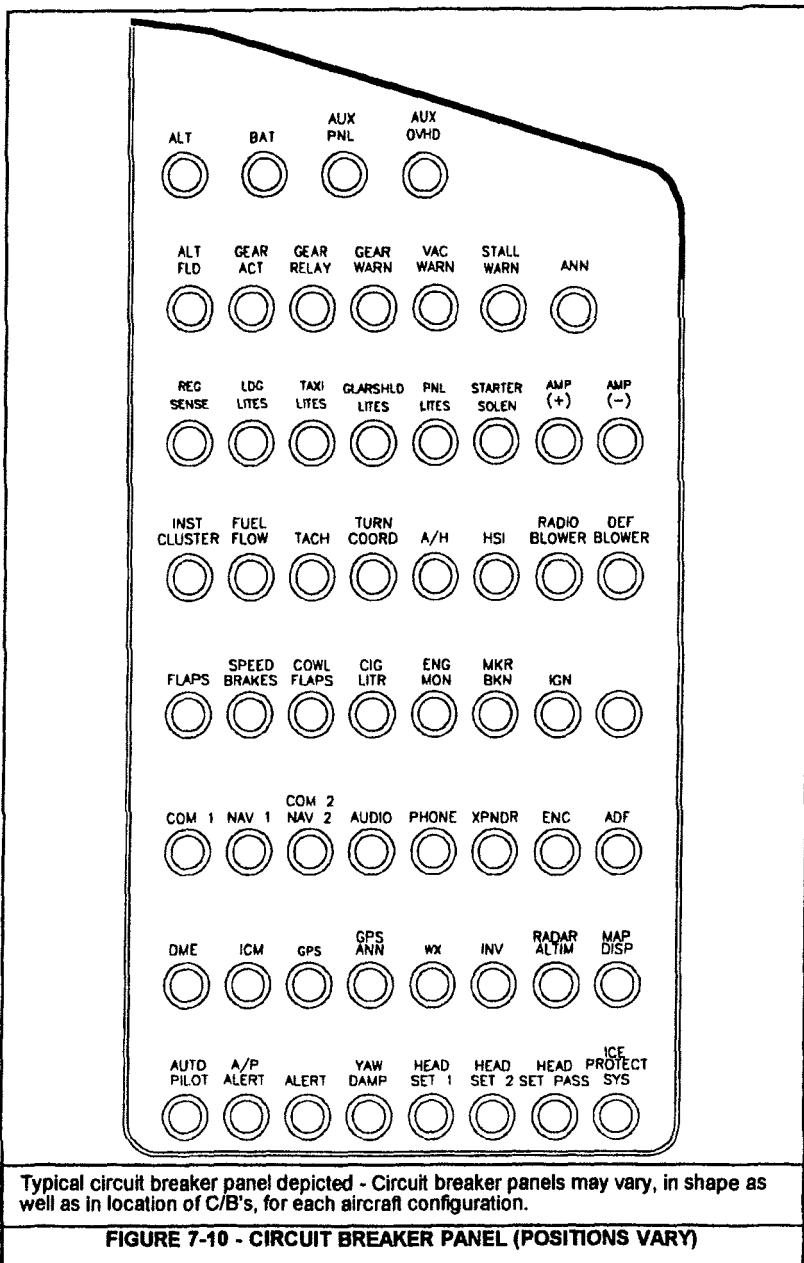

FIGURE 7-10 - CIRCUIT BREAKER PANEL (POSITIONS VARY)
**ELECTRICAL SCHEMATIC (SEE FIGURE 7-9)****CIRCUIT BREAKER PANEL (SEE FIGURE 7-10)**
Push-pull or rocker switch-circuit breakers automatically break the electrical current flow if the system or unit receives an overload, thus preventing damage to electrical wiring. The main circuit breaker panel is in the extreme right panel. Figure 7-10 illustrates the main circuit breaker panel with its push-pull circuit breakers. All rocker switch-circuit breakers are at the bottom of the flight panel.